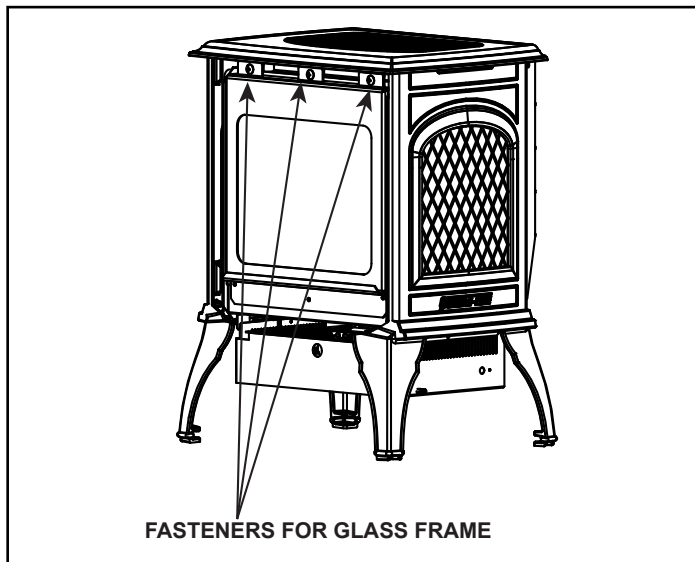

Figure 10.2 Remove Glass Frame
2. Using a Phillips screwdriver, remove the three screws on the front glass assembly and take the glass off the appliance. See Figure 10.2.